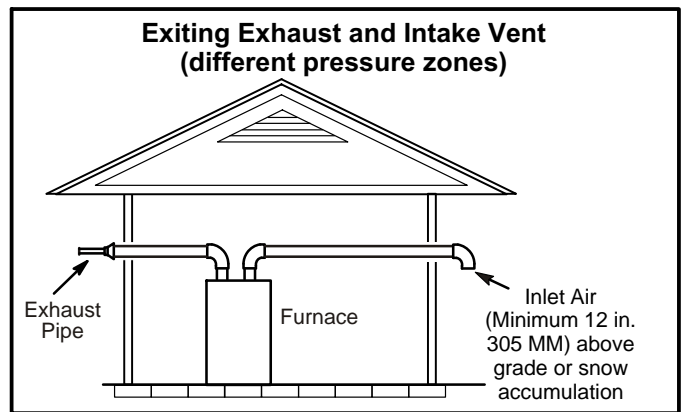
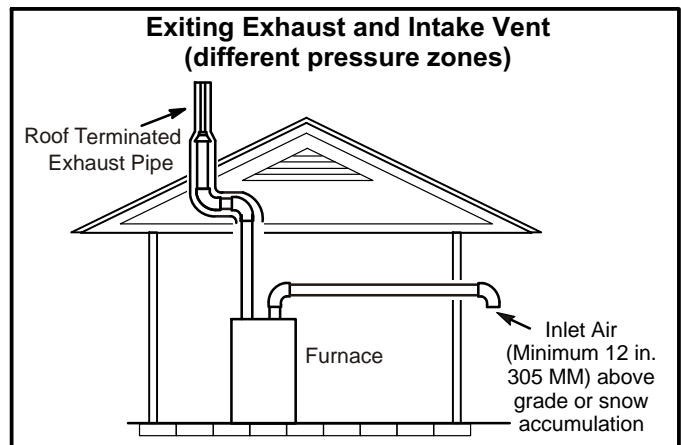

FIGURE 31
FIGURE 32
1. Intake and exhaust terminations are not required to be in the same pressure zone. You may exit the intake on one side of the structure and the exhaust on another side (figure 31). You may exit the exhaust out the roof and the intake out the side of the structure (figure 32).